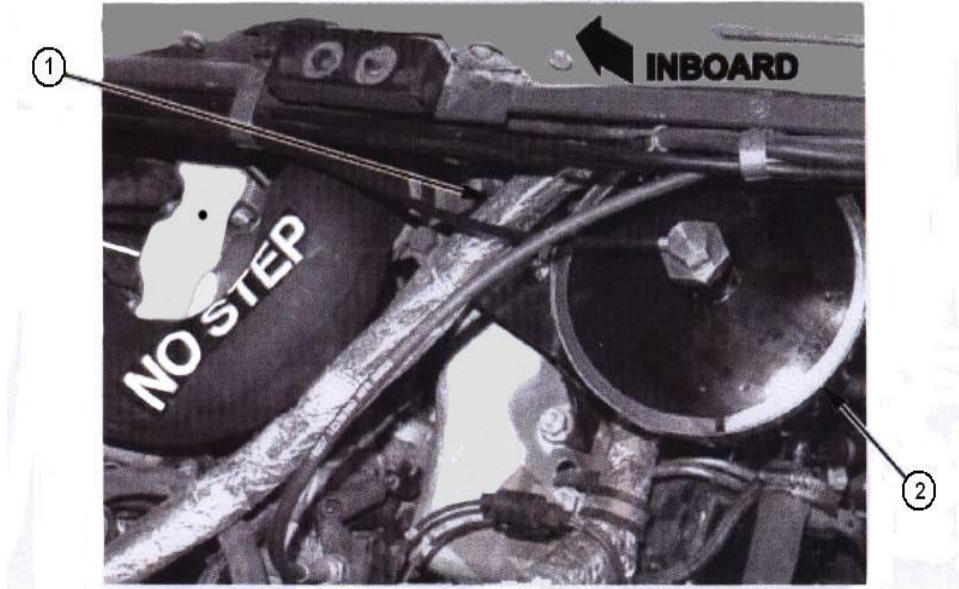

Figure 21
t. Re-routing of A/C Wiring Harness. Refer to TM 9-2320-387-24-2, Chapter 25, Task Para 25-35, Page 25-94 and **Figure 21** contained in these instructions.
(1) Re-route A/C wiring harness (1) around inboard side of power steering reservoir (2). Refer to Figure 21.